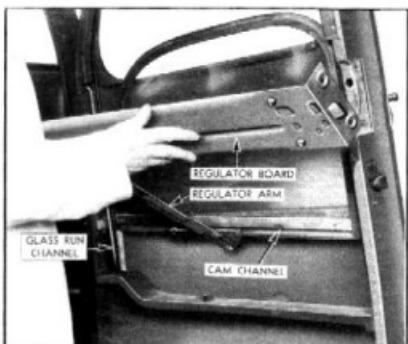

Fig. 2—Removing Window Regulator
- Install the glass in the door opening, lubricate the cam channel with graphite grease, connect the regulator to the cam channel, as shown in Fig. 2. Reassemble the regulator board, door inner panel, and control handles.